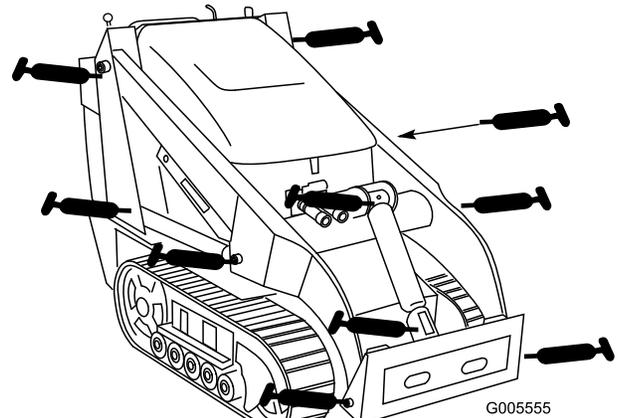
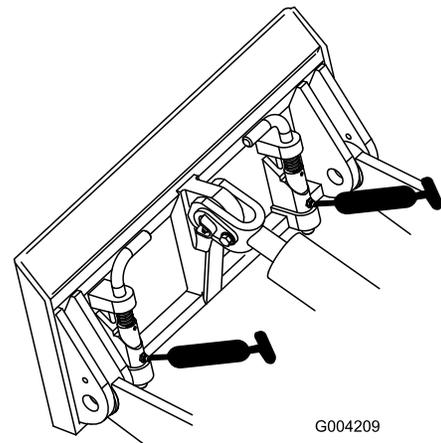

Figure 24
Figure 25
3. Connect a grease gun to each fitting (Figure 24 and Figure 25).